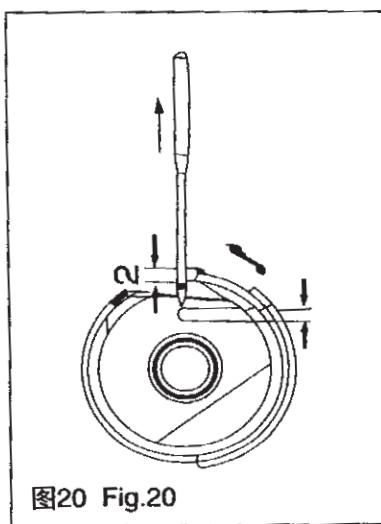

图20 Fig.20
(1) 旋梭的勾线尖，应与机针的中心线一致；
(2) 在此位置时，勾线尖应高于机针孔上边2毫米（图 20）
- (1) Looping point of rotary hook should be in with the mid-line of needle;
- (2) Looping point should be 2mm higher than the hole of needle (Fig. 20)